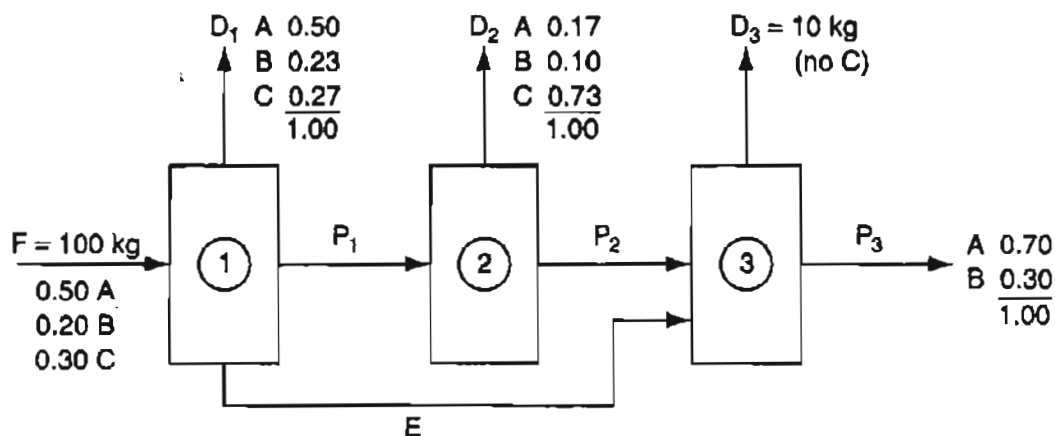

Figure P11.12
- **11.12** Figure P11.12 shows a three-stage separation process. The ratio of P_3/D_3 is 3, the ratio of P_2/D_2 is 1, and the ratio of A to B in stream P_2 is 4 to 1. Calculate the composition and percent of each component in stream E .